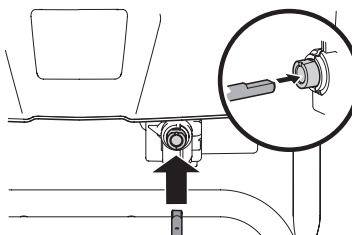

Figure 2-43
5. Insert other end of chute control rod into coupler below handle panel. Make sure to line up flat end of rod and flat end of coupler. You may need to rotate rod around until these two surfaces line up. See Figure 2-43 inset.